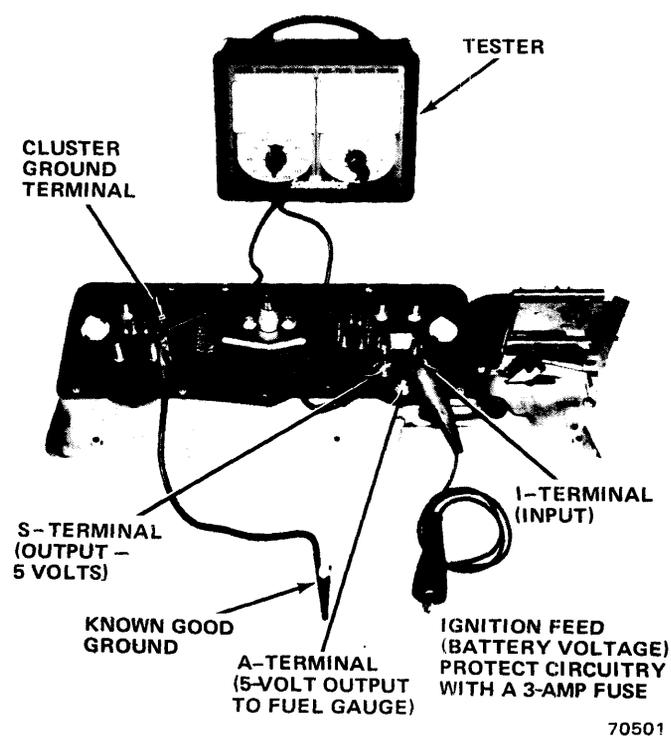

Fig. 3-65 Testing Temperature Gauge—
- (1) Disconnect battery negative cable.
- (2) Remove instrument cluster and disconnect all electrical connections.
- (3) Connect a jumper wire from cluster ground terminal to known good ground (fig. 3-65).
- (4) Connect ignition feed jumper wire, protected by 3-amp fuse, to E-pin terminal. This applies voltage through radio noise suppressor to I-terminal of temperature gauge.